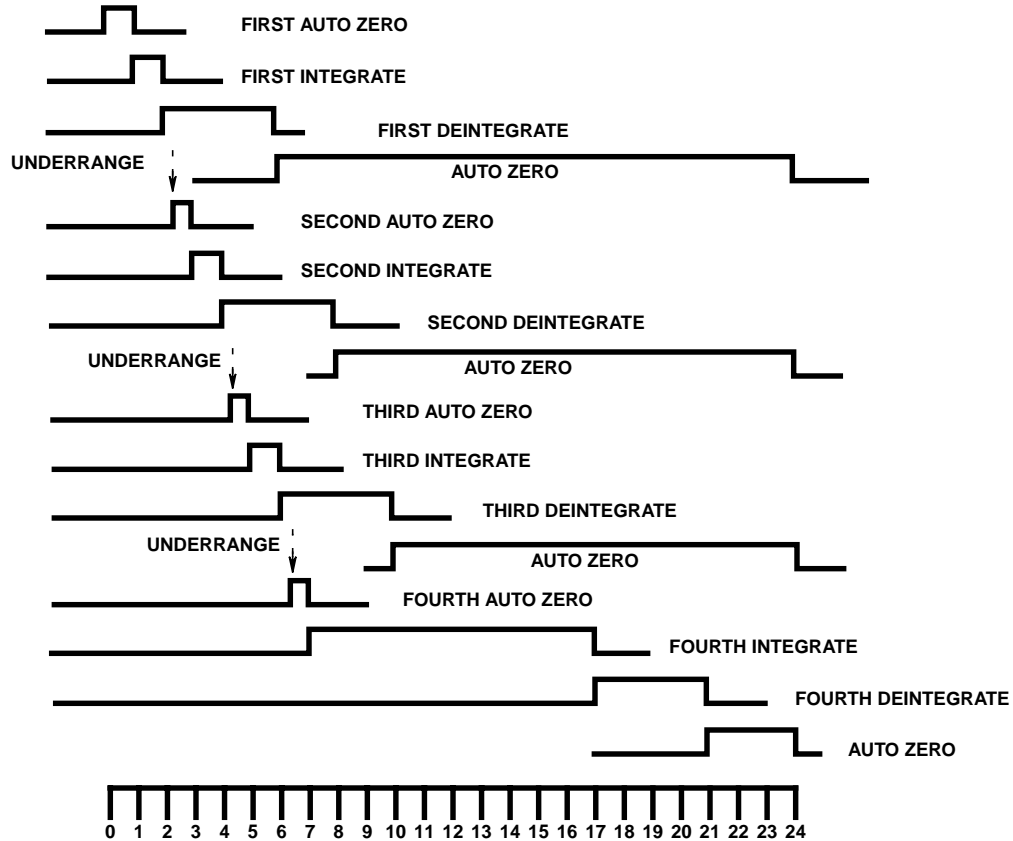
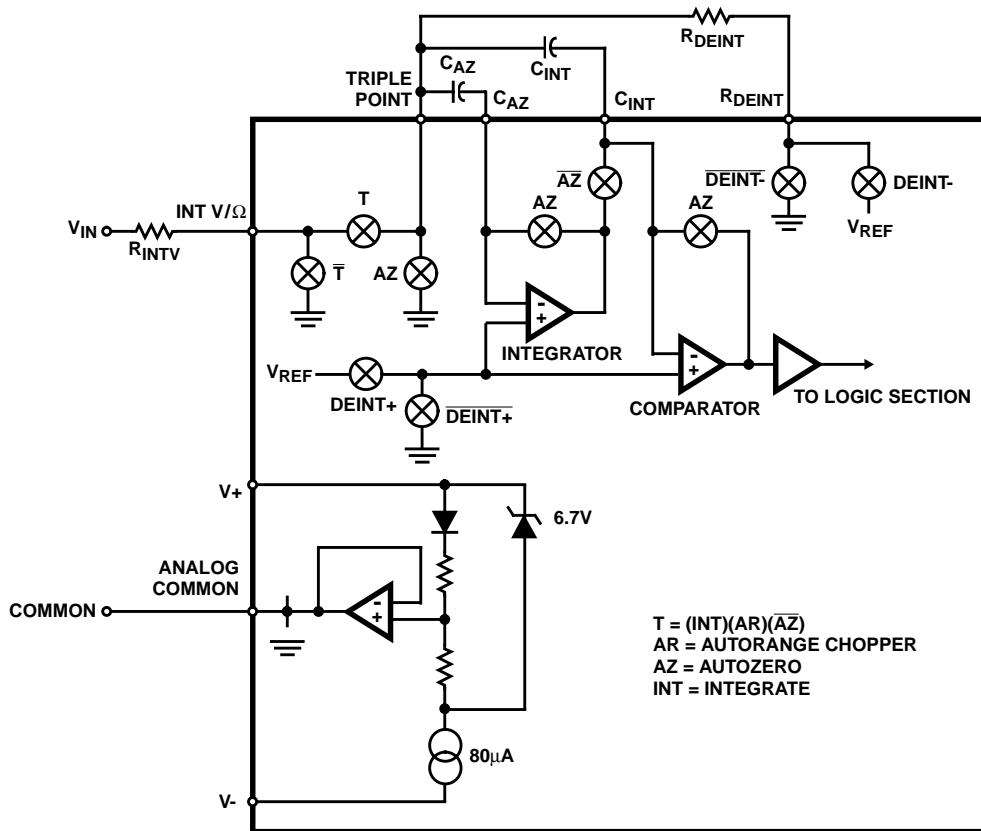

FIGURE 1. LINE FREQUENCY CYCLES (1 CYCLE = 1000 INTERNAL CLOCK PULSES = 2000 OSCILLATION CYCLES)
FIGURE 3. DETAILED CIRCUIT DIAGRAM FOR DC VOLTAGE MEASUREMENT
Electrical Specifications V+ = 9V, T_A = 25°C, V_{REF} adjusted for -3.700 reading on DC volts, test circuit as shown in Figure 3.
Only those portions of the analog section which are used during DC voltage measurements are shown in Figure 3. As shown in the timing diagram (Figure 1), each measurement starts with an autozero (AZ) phase. During this phase, the integrator and comparator are configured as unity gain buffers and their non-inverting inputs are connected to Common. The output of the integrator, which is equal to its offset, is stored on C_{AZ} - the autozero capacitor. Similarly, the offset of the comparator is stored in C_{INT} . The autozero cycle equals 1000 clock cycles which is one 60Hz line cycle with a 120kHz oscillator, or one 50Hz line cycle with a 100kHz oscillator.